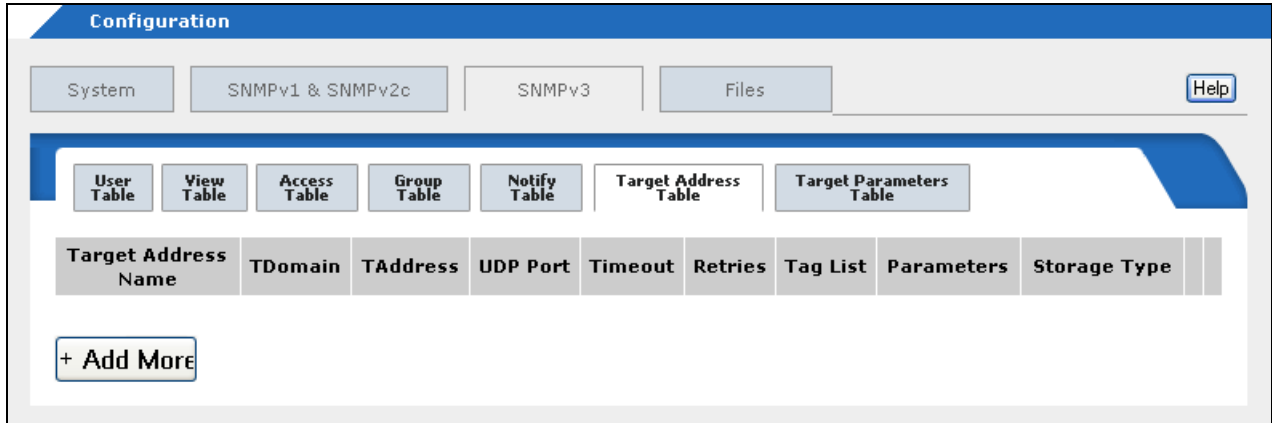

Figure 135. SNMPv3 Target Address Table Tab
- :Click the **Configuration** button in the menu bar and then select the **SNMPv3** tab and the **Target Address Table** tab. The Target Address Table tab is shown in Figure 135.